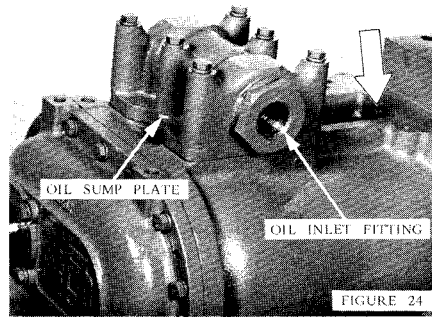

FIGURE 24
24. Turn unit upside down. Install the gasket and oil sump plate on the cylinder. Tighten all screws evenly — torque per table. Make sure the sump plate is installed with the oil inlet on the proper side as shown. Be sure to install and tighten the one cylinder flange to end plate socket head screw (see arrow in Figure 24).